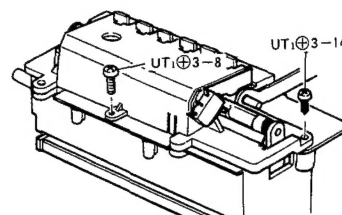

Fig. 12
- 2) Remove the 2 screws and take off the mechanism frame B ass'y. (See figure 12)